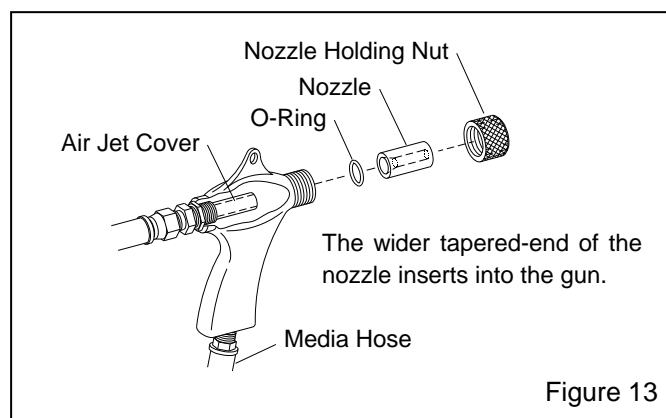

Figure 13
9.2 BNP Gun Assembly, Figure 13